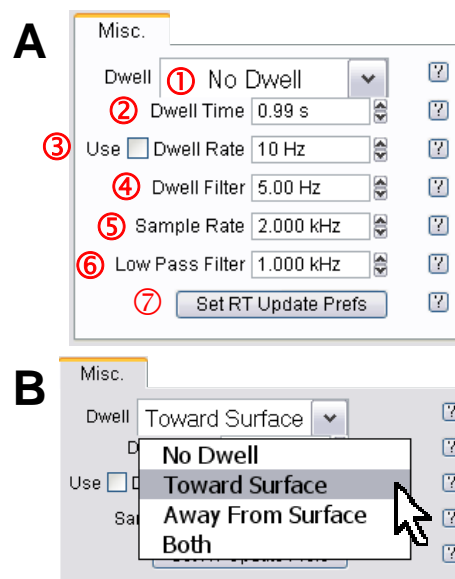

Figure 11.2.2.1 Misc. tab allows user to define temporal and low pass filter settings for Dwell and force curve collection.
① Dwell Pull-down menu- activate Dwell function here. (Figure 11.2.2.1B).